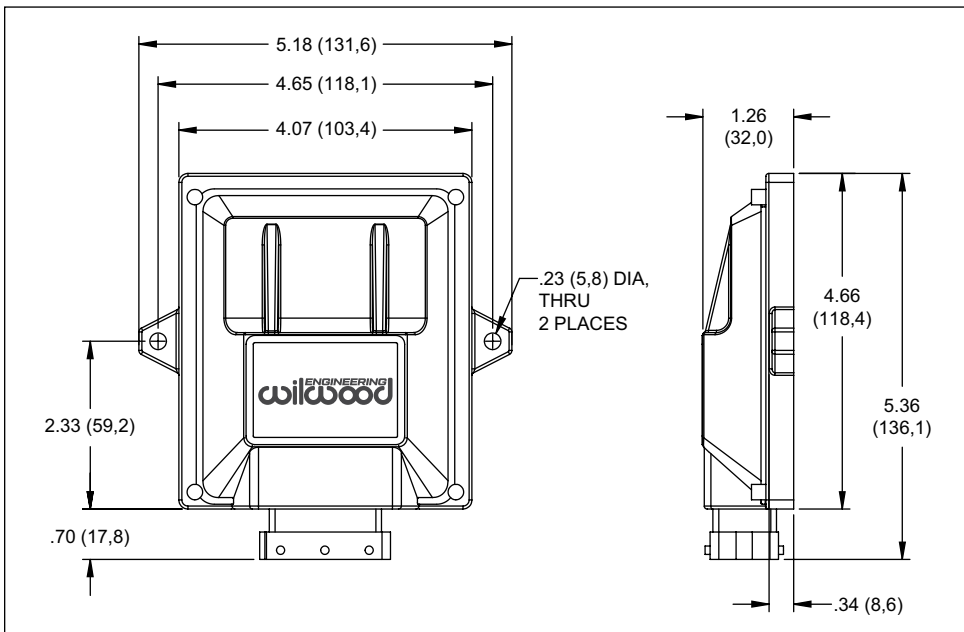

Figure 1. EPB Control Unit
- **EPB CONTROL UNIT (ECU)** - Securely mount the EPB control unit in a suitable location inside the vehicle, such as under the dash. Be sure to allow adequate access to the control unit cable connector. See Figure 1 for mounting dimensions.